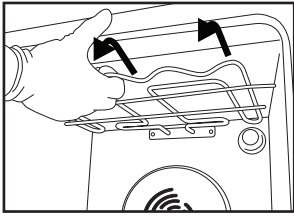

Fig. 1
2. Pull the heating element out a little (Fig. 1) and lower it (Fig. 2).